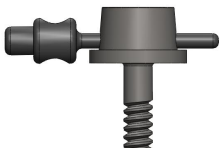

Fig. 1
1. Place the Weep Hole Alignment Pin (contained in Locator Retrofit package Zest order No. 1747-2 and No. 1747-10) through the two weep holes on the ERA Attachment. (Fig. 1)